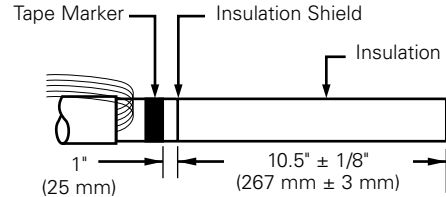

Figure 16. Line illustration of cable stripback.
- Remove insulation shield 10.5" (267 mm) from end of cable. (Refer to Figure 16.)
- Measure 1" (25 mm) from end of insulation shield. (Refer to Figure 16.)